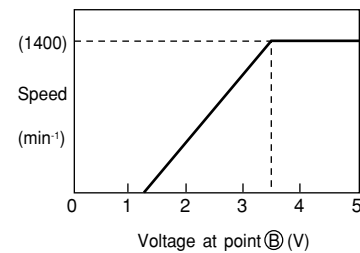

Fig. 7-3
Fig. 7-3 shows the relation between the voltage at the point (B) and the speed. (Some differences will occur due to the condition of the unit.)